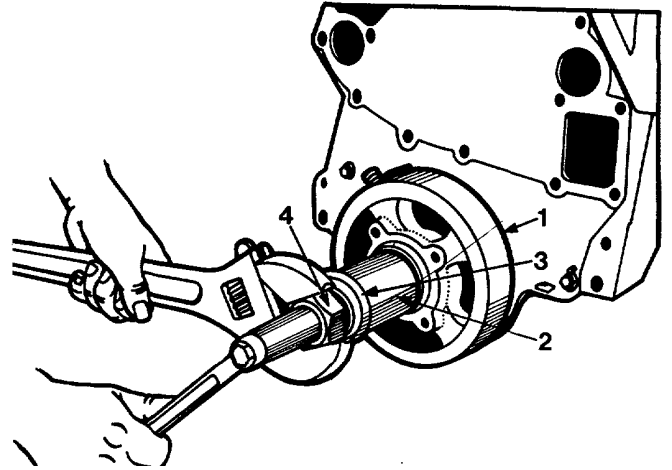

Fig. 149 Installing Crankshaft Vibration Damper Using SE-1900 Installer and SE-1900-18 Adapter
17. Install woodruff key in the crankshaft and install the crankshaft vibration damper using SE-1900 installer and SE-1900-18 adapter, Figure 149, with thrust bearing to reduce friction. Install damper bolt and washer and tighten to specified torque. See "Torque Chart."